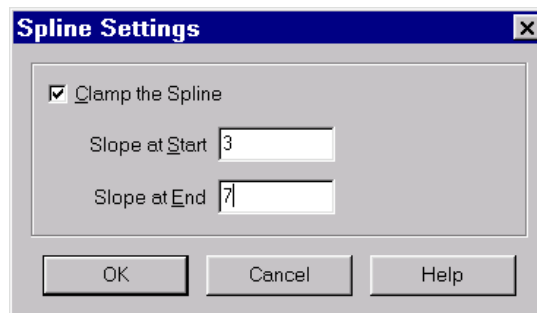

Figure 8-21. The Spline Settings dialog.
1. Click Curve Settings. The Spline Settings dialog appears, as shown in Figure 8-21.